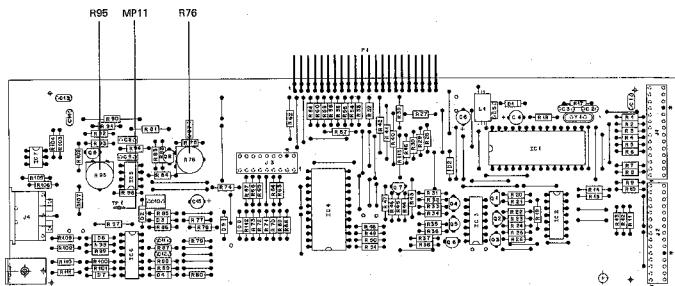

Fig. 4.7
- Press station selector key 12 (97.925 MHz) and adjust the reading on the digital voltmeter to $1.8\text{ V} \pm 10\text{ mV}$ with R95 (1.726.780, Fig. 4.7).